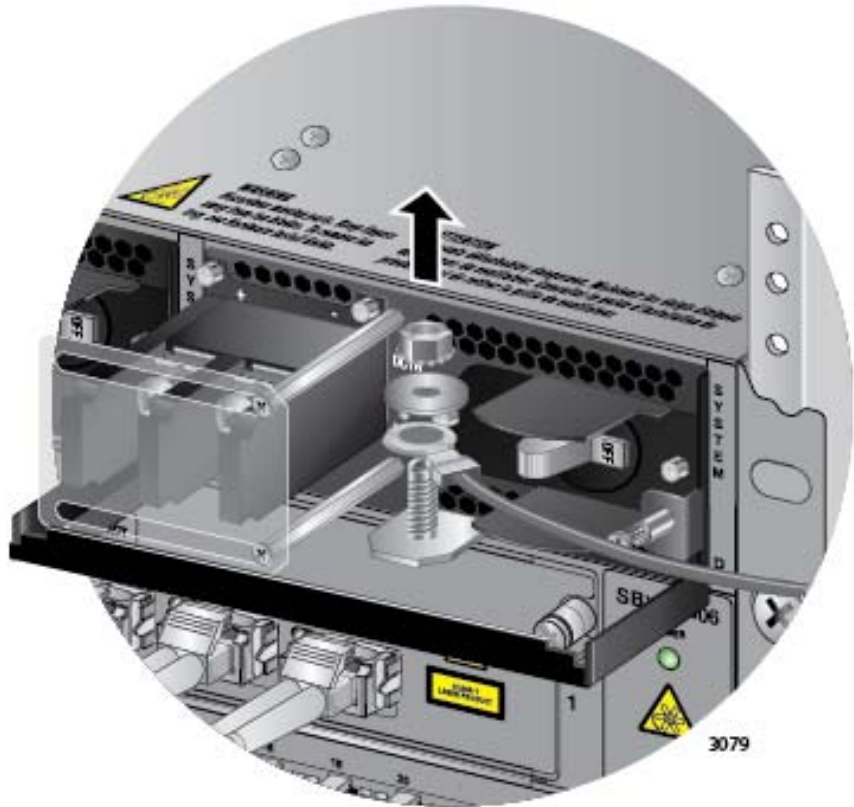

Figure 158. Removing the Grounding Wire
9. Use an 8 mm wrench to remove the grounding wire from the grounding post. Refer to Figure 158 on page 243.